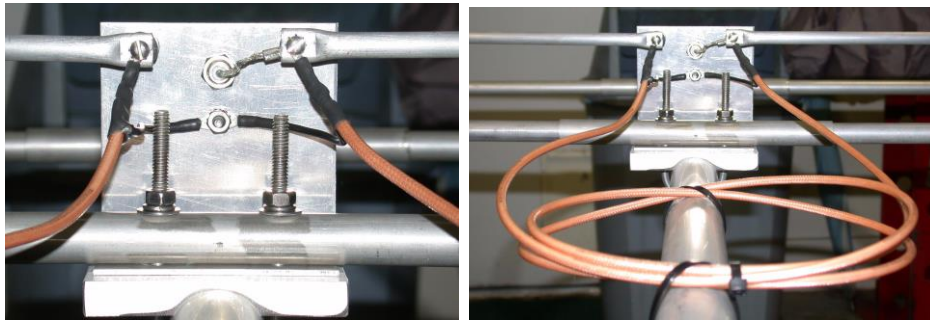

Figure 2
9. Connect both ground wires from both ends of the balun to the grounding screw just below the connector. Place a lock washer on the stud first, then both lugs, another lock washer and then the nut and tighten. Refer to Figure 2 for details.